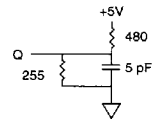

Fig. 2 OUTPUT LOAD EQUIVALENT
- t'HZCE and t'HZWE are specified with CL = 5 pF as in Fig. 2. Transition is measured ± 500mV typical from steady state voltage, allowing for actual tester RC time constant.
- Chip enable (CE) and write enable (WE) can initiate and terminate a WRITE cycle.